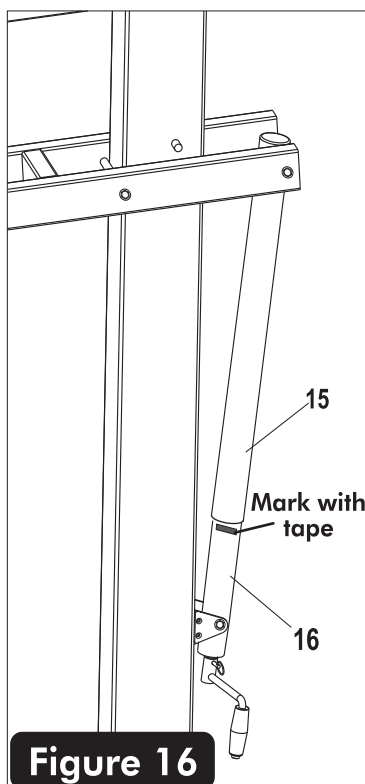

Figure 16
31. Using tape - mark the **side** of the steel actuator (#16) just under the plastic actuator sleeve (#15) at this 10 ft rim height. See **Figure 16**.